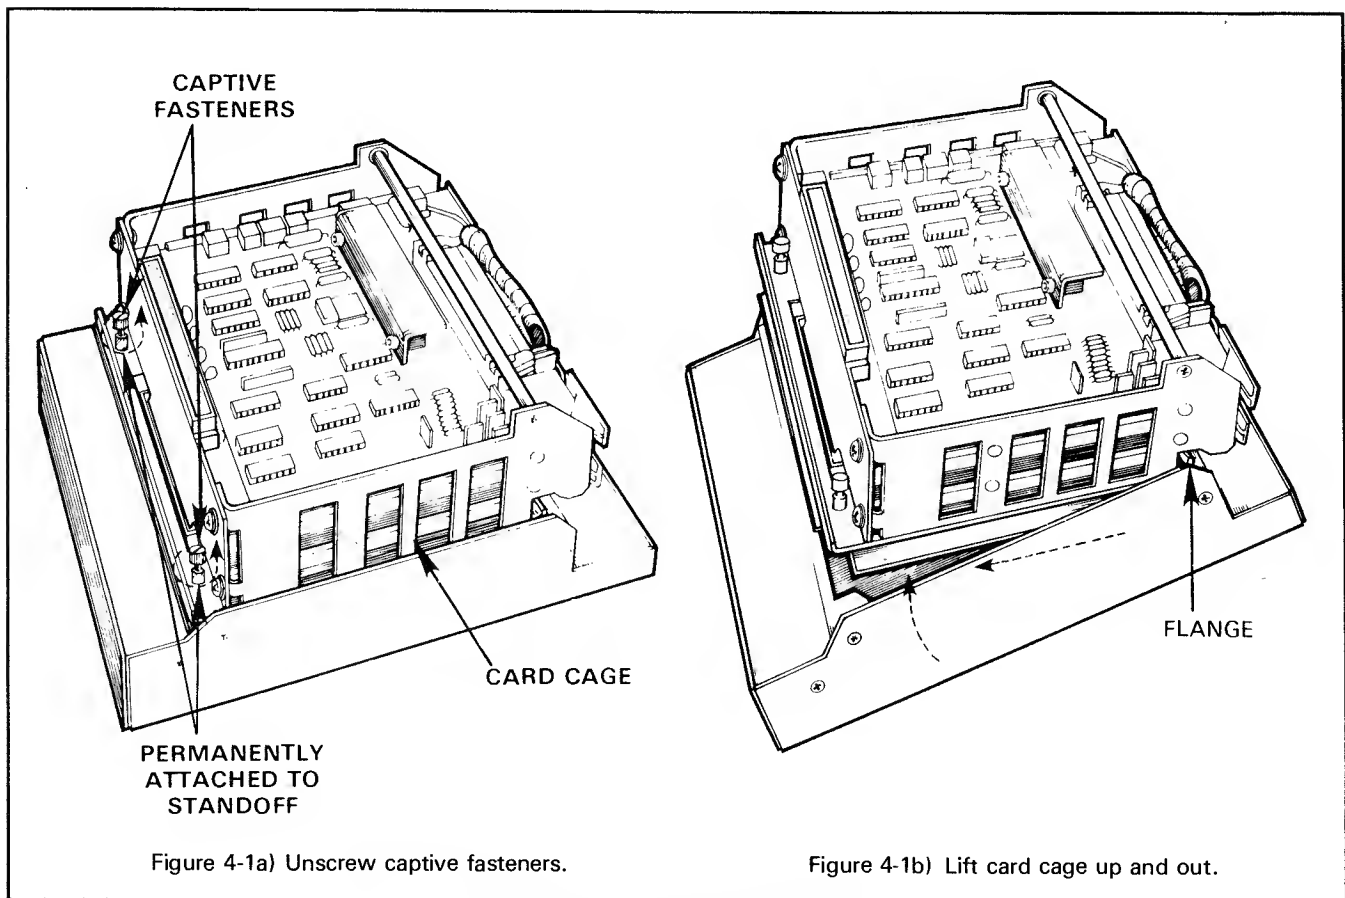

Figure 4-1. UniPak™ Disassembly
To disassemble the UniPak™, refer to figure 4-1 and follow the procedure outlined below.
9. Replace the card cage by tilting it up to lock the flanges, as shown in figure 4-1, then gently setting it down. Make sure the captive fasteners line up with the fastener holes on the UniPak™ frame.